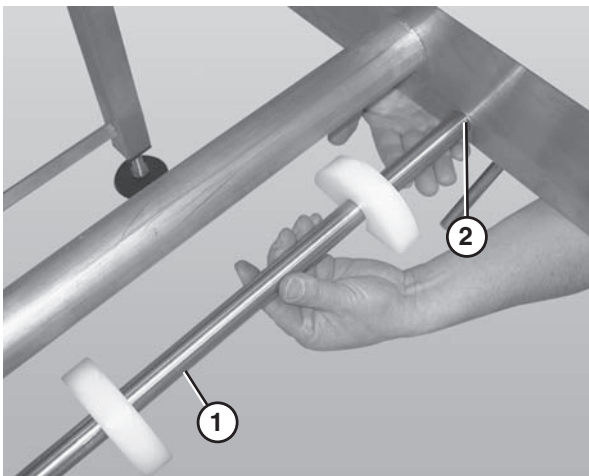

Figure 58
1. Remove the pull pins (Figure 58, item 1) on the tension end of the conveyor to release tension on the belt.
1. Remove the belt returns by pushing up on the return shaft (Figure 58, item 1) and sliding it through the large hole (Figure 58, item 2) in the frame.
2. Lower the opposite end of the return shaft (Figure 58, item 1) and slide it out of the frame.